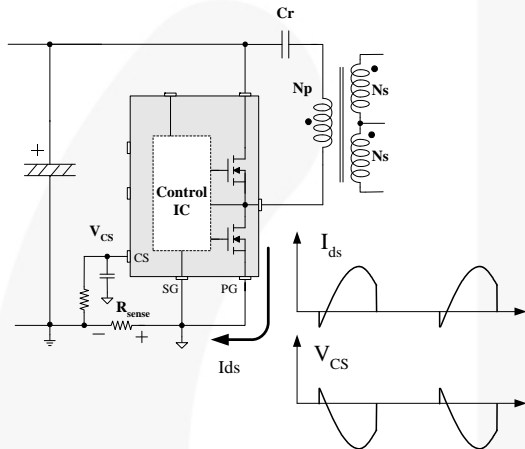
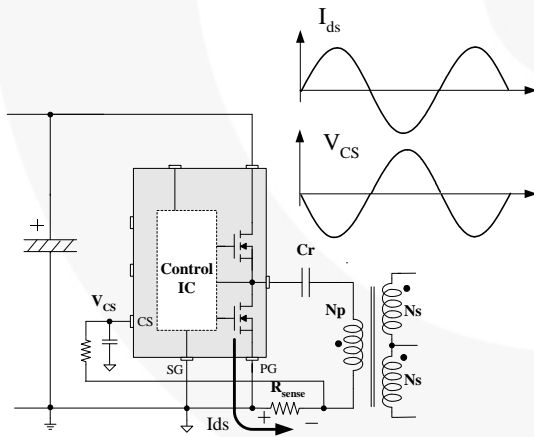

Figure 23. Half-Wave Sensing
Figure 24. Full-Wave Sensing
**6. Current Sensing Using a Resistor:** FSFR-XS series senses drain current as a negative voltage, as shown in Figure 23 and Figure 24. Half-wave sensing allows low power dissipation in the sensing resistor, while full-wave sensing has less switching noise in the sensing signal.